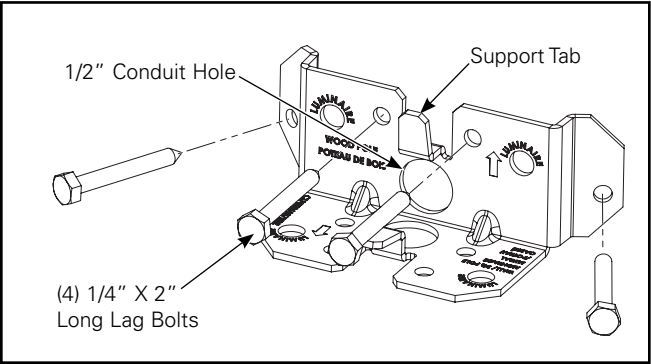

Figure 3.
- **Wood Pole Mount:** Place bracket (wood pole mount) face against pole with bracket arrow pointing up. (Figure 3.)